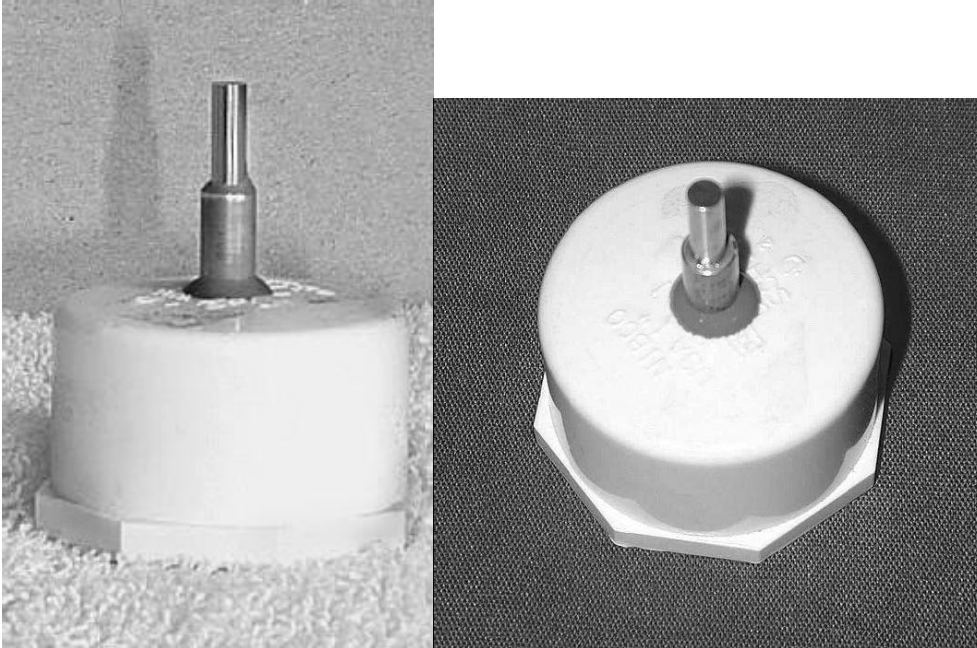

Figure 2. Plastic cap with gage pin and drill collar sticking out, all epoxied together (gray).
4. When you have it put together and the epoxy is still wet, put it on a flat surface and slide the gage pin down until it bottoms out where the plastic cap sits on the flat surface. It will look something like Figure 2, below, when done. Make sure the gage pin doesn't dry at an angle (it should be parallel to the iron pipe, keep checking visually as it dries). If the pin isn't sticking straight out of the cap, your drop tester will not work properly.
2. "Start by setting the threaded PVC flange thread side up and laying the test fabric over it, and loosen the first hose clamp so that it will fit easily over the fabric and flange but pull the fabric somewhat taut as it is pushed down. Tighten that hose clamp, put a second one on and slide it down to touch the first then tighten the second one. It should look something like Figure 2. You may want to invest in a 5/16" nut driver (like a screwdriver with a socket head). It will prevent gashes on your hand from slipped screwdrivers. Note that if you didn't push the first hose clamp far enough down (you may want to lean on it a bit with the screwdriver or nut driver), the second hose clamp won't stay on when you tighten it; it will just barely fit if you do everything right.
Figure 2. Fabric clamped onto flange with two hose clamps. Notice that the second one will protrude a bit above the level of the fabric with thicker fabrics, but it should still be tight if you push everything down enough.